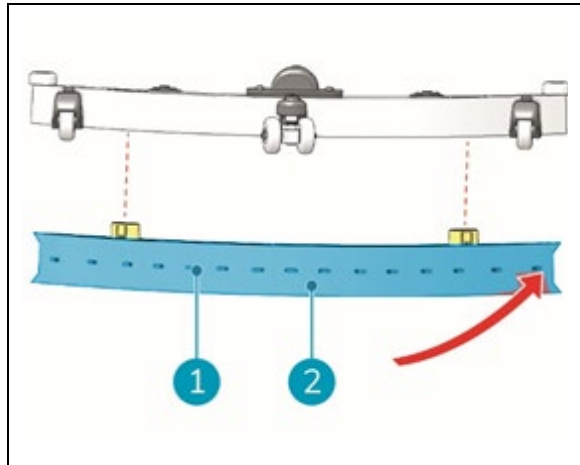

Figure 42
5. Replace the rubber squeegee blade with a new one, (Figure 42 , pos. 2). Fix it onto the holder by pressing it gently on the metal nobs of the holder, (Figure 42 , pos. 1).